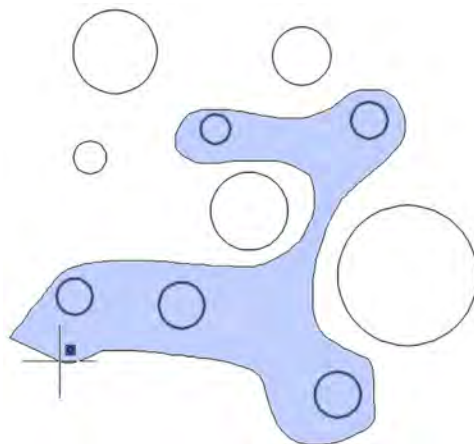

FIGURE 1.32
- Step 1.** Draw another set of circles, as seen in Figure 1.32, or just undo your previous steps.
- Step 3.** Do not type anything in, rather *press and hold down* the left mouse button, and drag it to the *right* (thus making it a *Window Lasso*) around several of the circles, as seen in Figure 1.32.